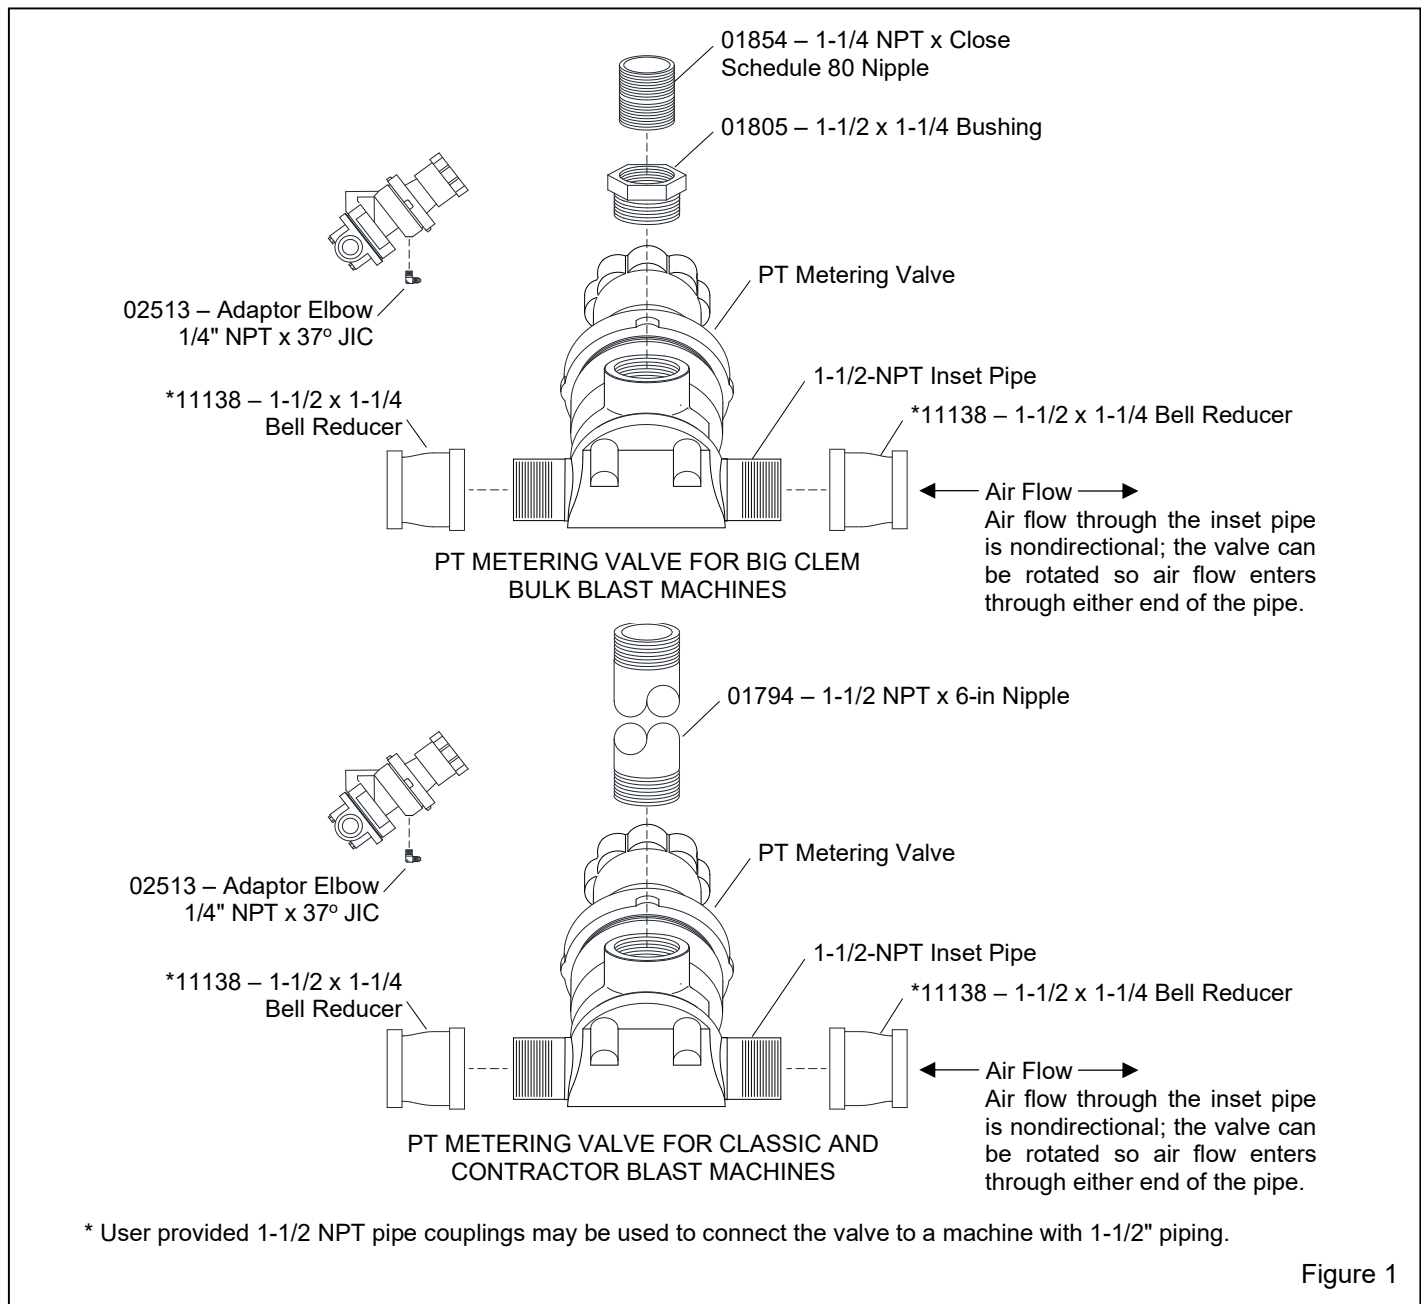

Figure 1
Components of the valve assemblies include the metering valve, pipe fittings for 1-1/4-NPT piping, and control hose adaptor elbow, as shown in Figure 1. **NOTE: User provided 1-1/2" NPT pipe couplings can be used to connect the valve to machines with 1-1/2" piping.**
2.2.1 Refer to Figure 1 to determine which fittings to use. Blast machine with 1-1/4" piping generally require bell reducers, 1-1/2" pipe coupling may be used to fit the valve on machines with 1-1/2" piping.